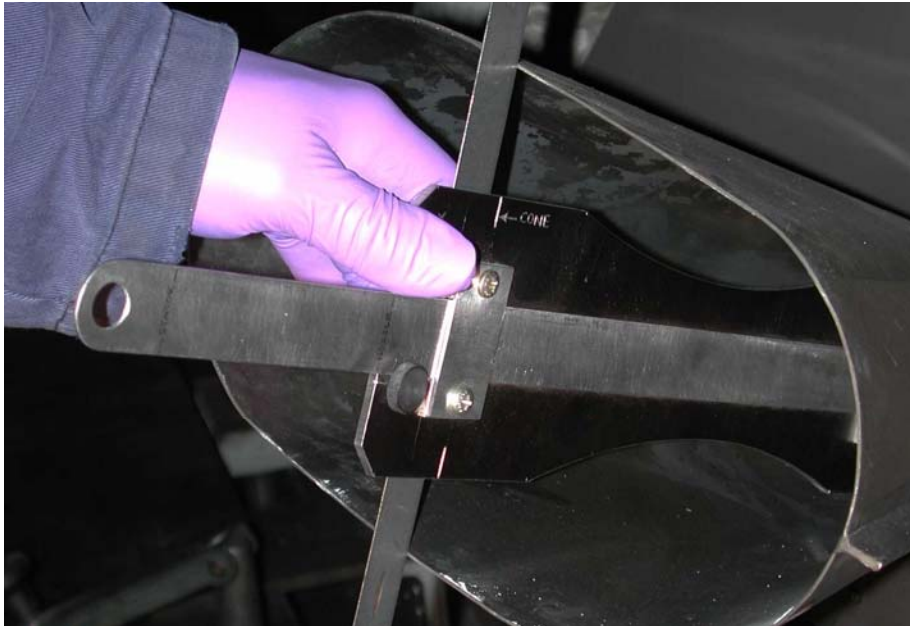

Figure 2. Checking Burner Cone Protrusion
- On opposite end of tool, check burner cone protrusion with straightedge across the cone face both horizontally and vertically. Ensure proper cone depth by observing scribe marks on tool (figure 2).